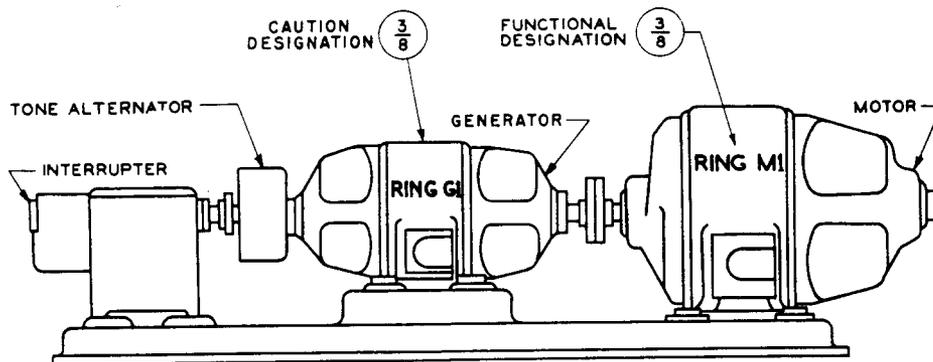

Fig. 42 - Ringing M-G Set With High- and Low-Speed Interrupters - Table Mounted
14. To delete the figures for panel-mounted interrupters (Fig. 42, 43, and 44 of previous issue).